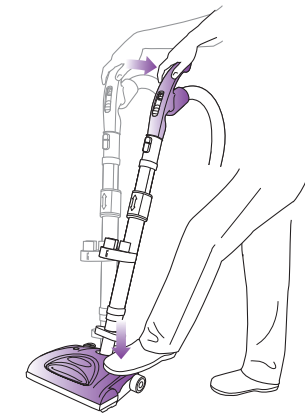

Fig. 7
- 6 To begin vacuuming, gently hold the power nozzle down with your foot, keeping it against the floor while you grasp the handle and tilt it towards you. (Fig. 7)